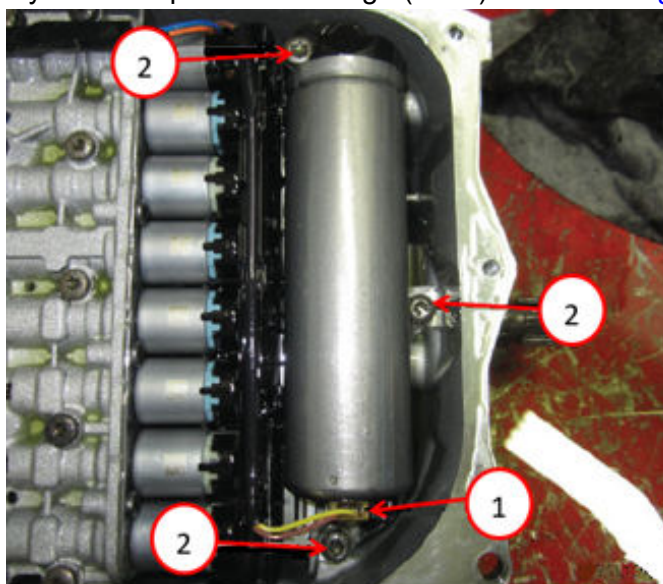

Fig. 8
11. If equipped, disconnect the Hydraulic Impulse Oil Storage (H.I.S) connector Fig. 8.